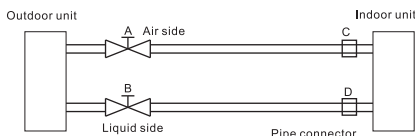

Fig 18
■ If the connection pipe is no more than 5 meters, use refrigerant in outdoor unit to exhaust the air(50-100 g refrigerant is charged for emptying the pipe before the outdoor unit is delivered, refer to Fig 18).
- ① Screw down the nuts at A, B, C, D joint completely.
- ② Turn on the nut of the Valve B with the hexagon wrench and then turn the valve core 45° anti-clockwisely for 10 seconds with the inner-hexagon wrench, then tighten the union A.
- ③ Have the leak test at A, B, C, D joint and then press the core of Valve A to exhaust the air for 20 seconds and then screw down the service valve.
- ④ Open Check valve B and A completely with the inner-hexagon wrench, then tighten nuts of them.